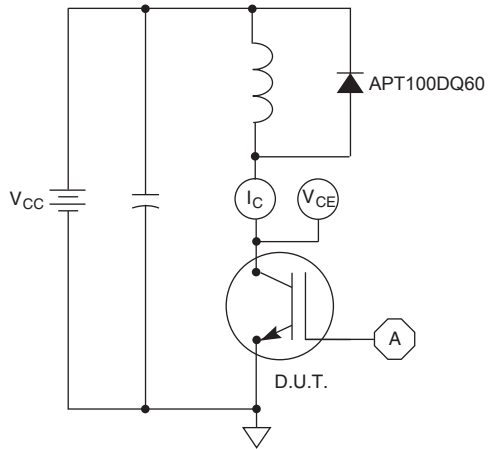

Figure 21, Inductive Switching Test Circuit
- ① Continuous current limited by case temperature.
- ② Repetitive Rating: Pulse width limited by maximum junction temperature.
- ③ For Combi devices, I_{ces} includes both IGBT and FRED leakages
- ④ See MIL-STD-750 Method 3471.
- ⑤ E_{on1} is the clamped inductive turn-on energy of the IGBT only, without the effect of a commutating diode reverse recovery current adding to the IGBT turn-on loss. Tested in inductive switching test circuit shown in figure 21, but with a Silicon Carbide diode.
- ⑥ E_{on2} is the clamped inductive turn-on energy that includes a commutating diode reverse recovery current in the IGBT turn-on switching loss. (See Figures 21, 22.)
- ⑦ E_{off} is the clamped inductive turn-off energy measured in accordance with JEDEC standard JESD24-1. (See Figures 21, 23.)
- ⑧ R_G is external gate resistance, not including $R_{G(int)}$ nor gate driver impedance. (MIC4452)